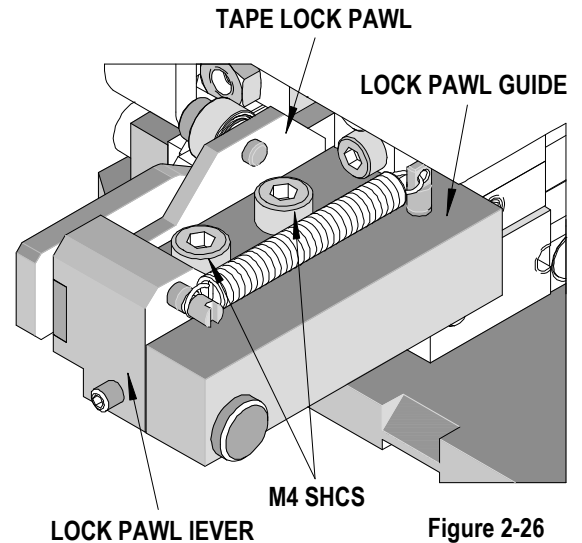

Figure 2-26
2. Using a 3mm hex wrench, loosen the (2) M4 SHCS holding the lock pawl guide. See Figure 2-26.
5. Secure the lock pawl guide in position by tightening the (2) M4 SHCS.